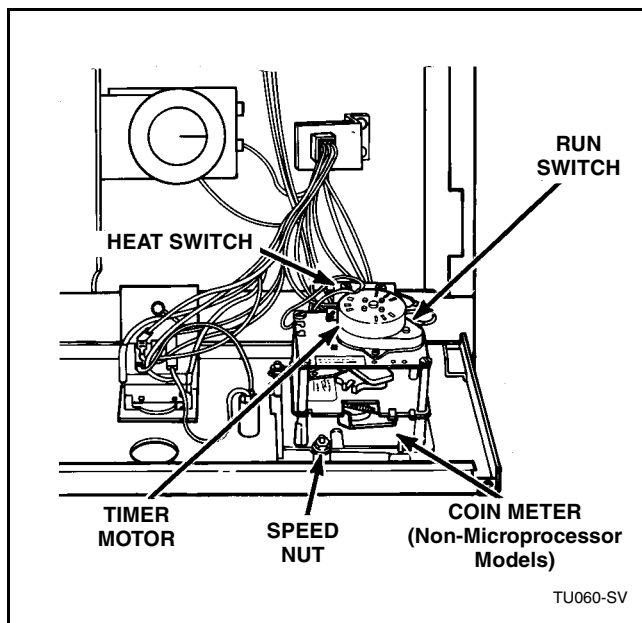

Figure 6
- Remove speed nuts holding coin meter to meter frame. Refer to *Figure 6*.
- Disconnect all wires from coin meter. Refer to *Figure 6*.
- Disconnect timer motor leads. Refer to *Figure 6*.